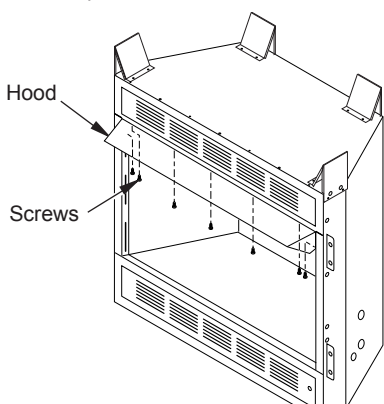

Figure 19 - Screw and Hood Placement
NOTICE: The firebox identification label (including model number, serial number, clearances, etc.) is located in the right side screen pocket area on the front of the firebox. See Figure 19, page 16.
1. Attach hood to firebox using screws provided (see Figure 19).